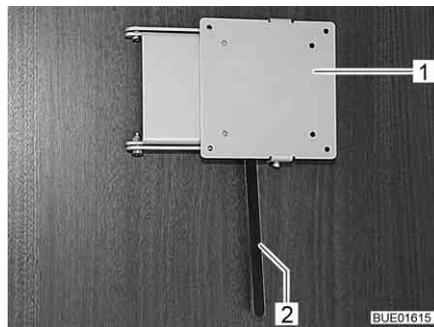

Fig. 51 Holder with release lever
- Push the release lever (Fig. 51,2) to the side and turn the holder (Fig. 51,1) with the flat screen to the desired position.
- Turn flat screen back until the holder (Fig. 51,1) engages in the lock.